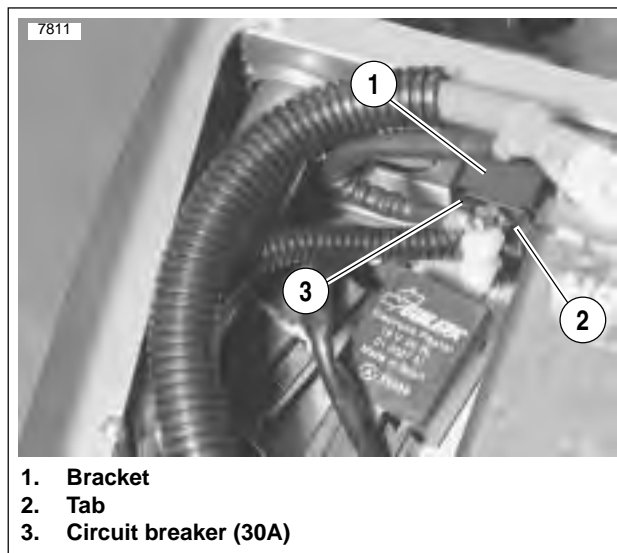

Figure 7-37. Circuit Breaker
See Figure 7-37. Attached to the frame above the battery, the main circuit breaker is between the ignition key switch and the battery. Remove the main circuit breaker as follows:
4. See Figure 7-37. Remove circuit breaker from circuit breaker bracket by carefully prying tab, located on left side, open and sliding circuit breaker out.